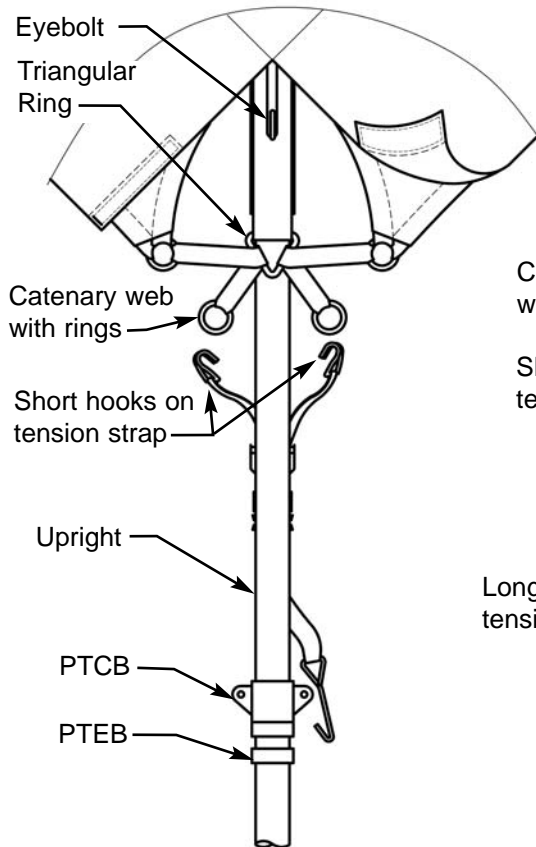

FIGURE 1
2. With top on, pull corners down and pull web over eyebolt. (fig. 1)
3. Place catenary webs with rings through triangular ring as shown. (fig. 1)